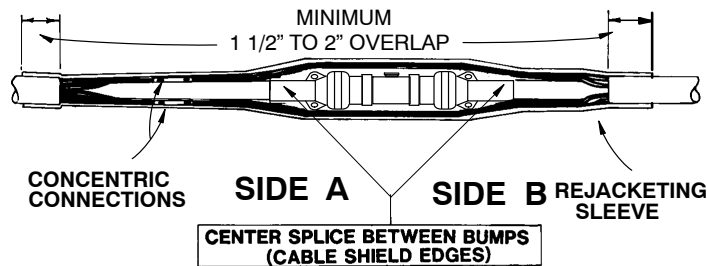

FIGURE 3
10. Lubricate insulation and semi-con shield of Cable B with silicone grease. Slide splice body onto Cable B and into final position over the connector. Use the bumps formed on the splice ends as guides for centering. See Figure 3.
11. Connect concentrics with two sleeves on Side A. Place 5 wires per side into each sleeve. Crimp using the "P" or "J" groove of the XPJ Nicopress tool. Snug sleeves and wires tightly against splice and cable. See Figure 3.